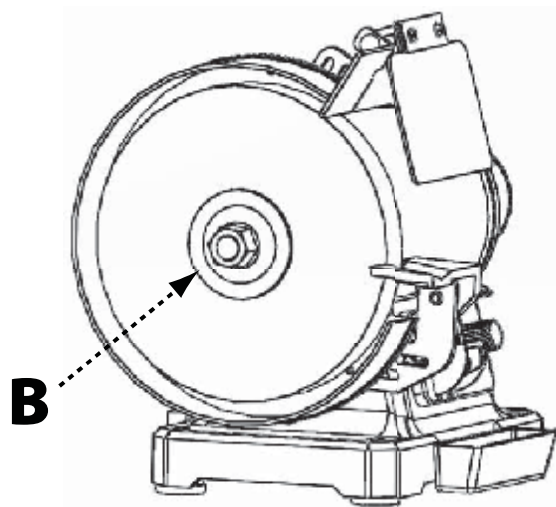

FIGURE 5
3. Using a suitable Wrench, on the arbor nut (B) while using the other hand to keep the wheel from moving. See Figure 5. Tighten the arbor nut as far as you can.